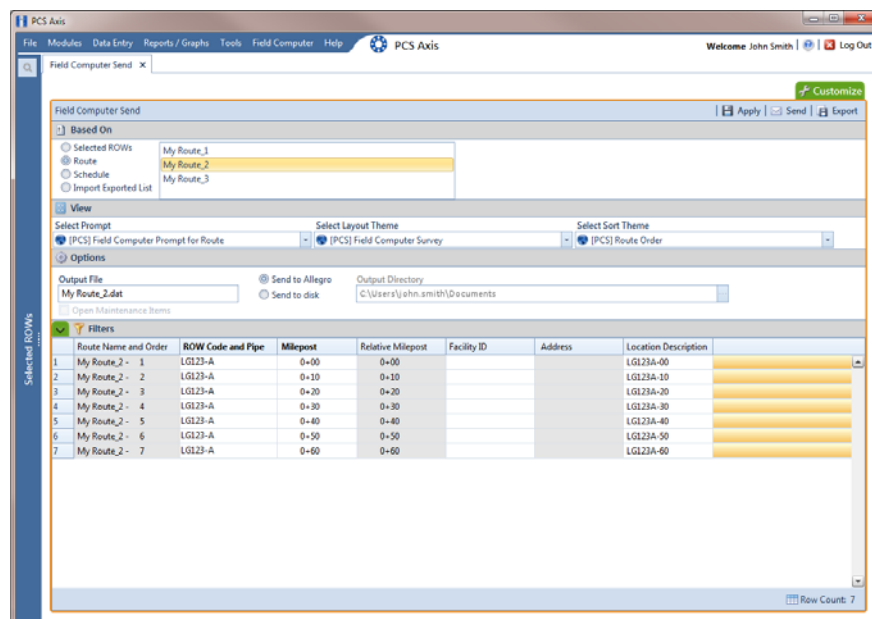

Figure 13-5. Field Computer Send
- 4 Click the **Route** option and then select a route in the selection box. The following figure shows *My Route_2* has been selected (Figure 13-5).
- 6 Select a prompt, layout, and sorting theme as follows (Figure 13-5, page 564):
- a Click the  **Filters** tab to open the *Filters* panel (Figure 13-5, page 564).